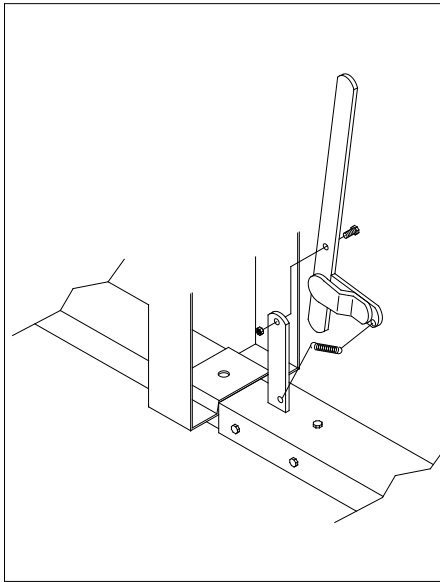

Fig. 4
8. Attach Cart Latch (5) to tongue front (4) with 5/16" x 1" HHC, lock nut, and Spring (22). **Fig. 4**